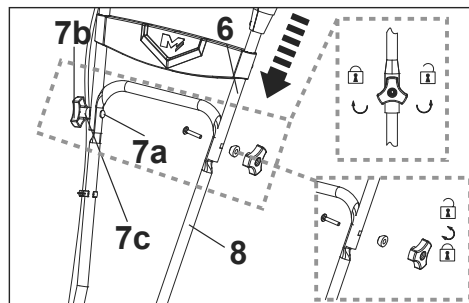

Fig. 2
3. Align the holes in the upper handle bar (6) with the holes in the middle handle bar (8) and secure the connection with the bolts (7a) and levers (7b) & washers (7c) (Fig. 2).